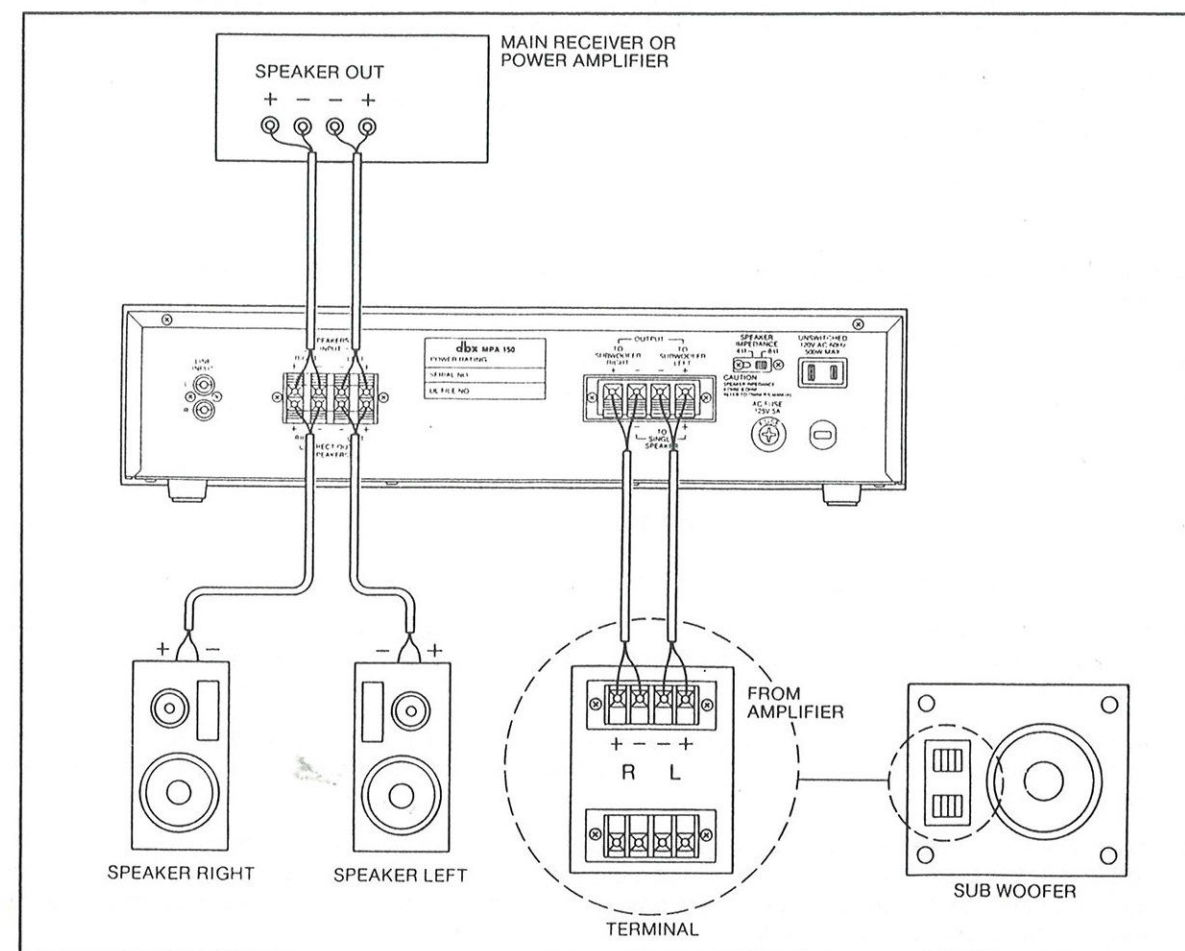

Figure 1
2. Connect your left and right loudspeakers to the left and right **DIRECT OUT SPEAKERS** terminals on the MPA 150 rear panel as shown in Figure 1.
3. Connect the left and right speaker output terminals from your main receiver (or amplifier) to the left and right **SPEAKERS INPUT** terminals on the MPA 150 rear panel. (See Figure 1.) Be sure to check that your wiring is in phase. (See the section *Keep-
4. Connect your dbx Model db-SW15 or BSR Model DR-SW15X2 or equivalent subwoofer left and right input terminals to the left and right **OUTPUT TO SUBWOOFER** terminals on the MPA 150 rear panel as shown in Figure 1.